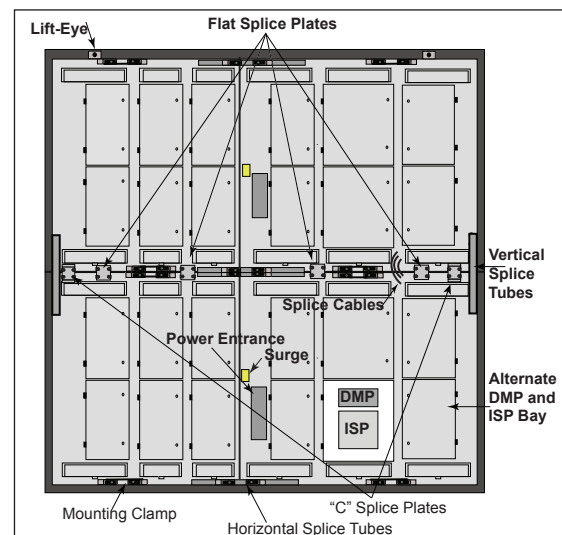

Figure 14: Splice Plate Installation Locations on Two Section Display
24. Starting at one end of the display, place the flat splice plates over the bolts and place a nut and washer on each bolt. Refer to **Figure 14**.